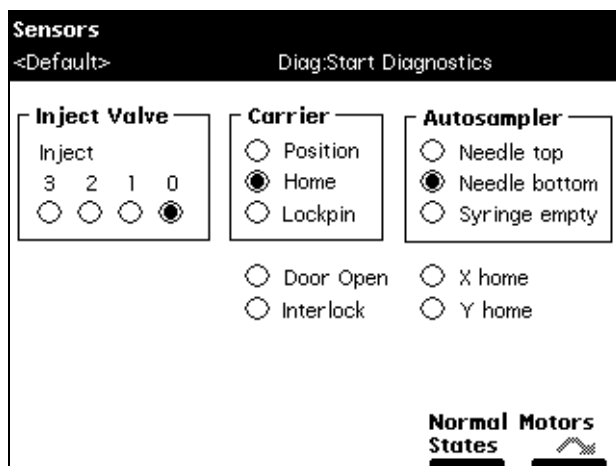

Figure 8-3 Sensors Diagnostics Screen
2. In the Other Diagnostics screen, press the **Sensors, Motors** screen key. The Sensors Diagnostics screen appears (Figure 8-3) indicating the current position of the: